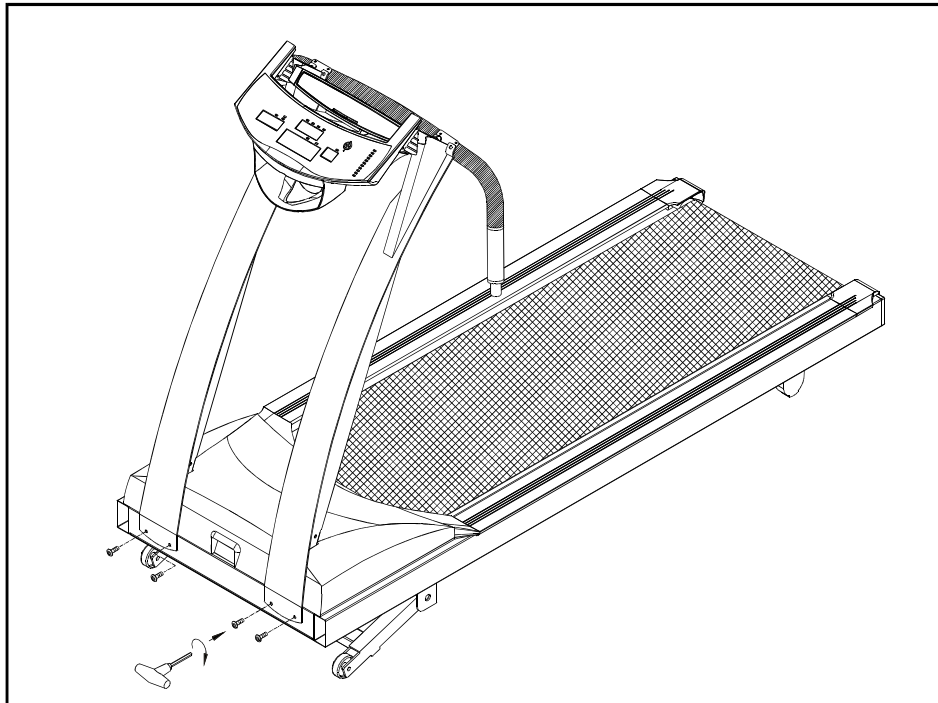

Fig.3
5. Using two 5/16" screws provided on each post. Do not tighten yet. (see Fig. 3)